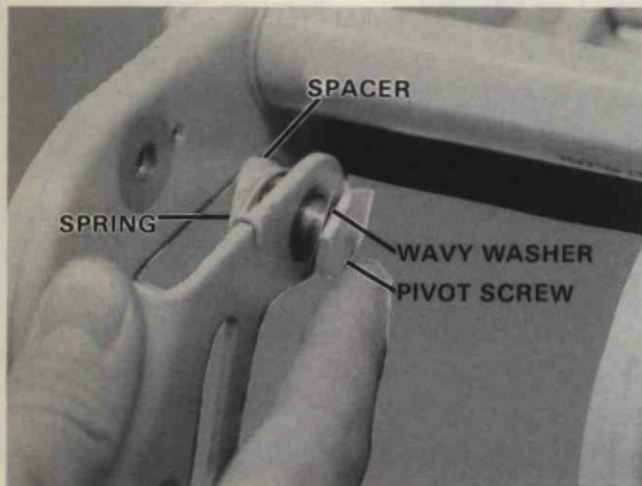

Figure 13. Installing Tilt Lock Assembly.
4. Install tilt lock assembly as follows: Figure 13.